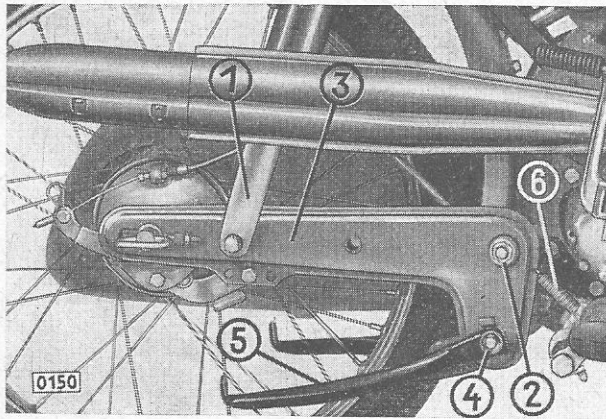

Fig. 23: Rear wheel swinging fork:
Taking out rear wheel pivoted fork (fig. 23)
5. Unscrew axle nut of pivoted fork (fig. 23/2 and 23/3), knock out bearing bolt and take off pivoted fork with prop stand.
6. Strip prop stand: Unhook prop stand spring, remove washer (fig. 23/4) from prop stand bearing axle, pull prop stand bearing axle out at the other end and detach prop stand (fig. 23/5).